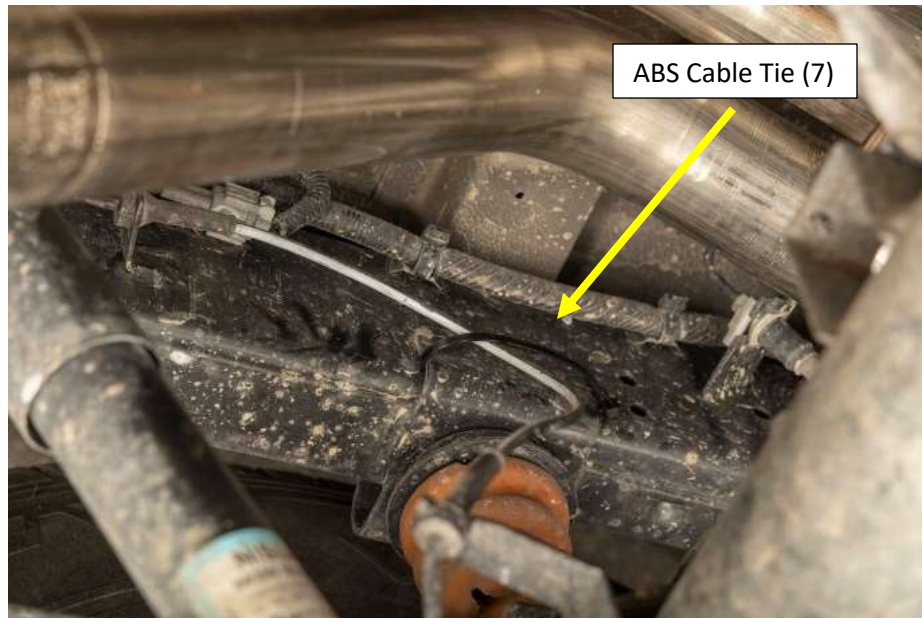
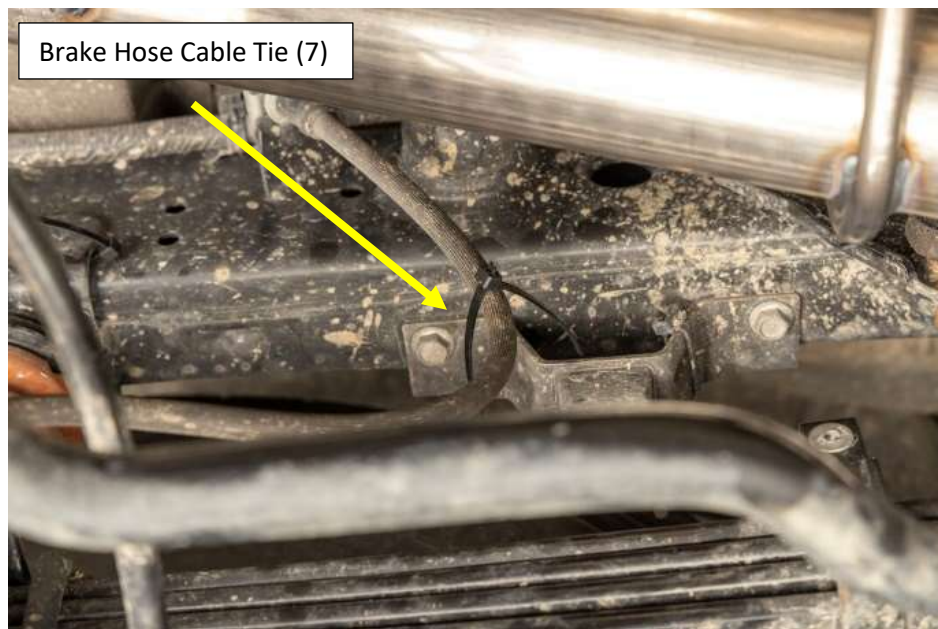

Figure. 5
Figure. 6
13. Secure the ABS Cable and Brake Hose away from the tail pipe assembly using the supplied cable ties (7). Loop the cable ties through the brackets on the frame and loosely adjust the cable ties for adequate clearance but still allow free movement with suspension travel. **Fig.5 /Fig.6**